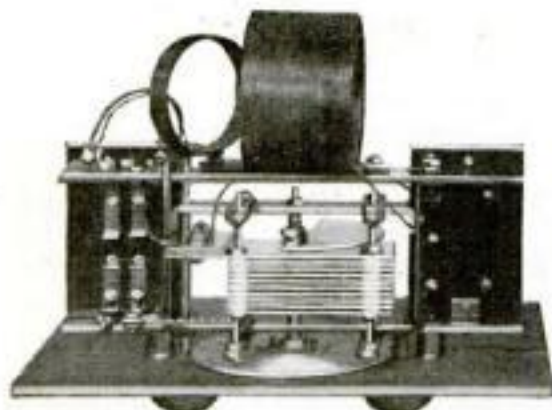
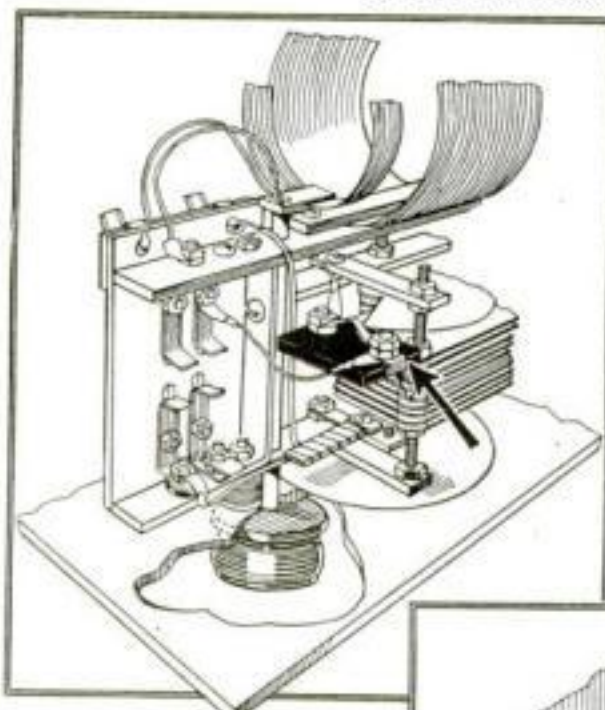

Fig. 1. Bottom view of Mr. Nebeker's prize-winning set, showing frame details, friction dial drive, and grid condenser.
Fig. 4. Arrow at right indicates simple friction drive that operates dial of tuning condenser. A spring maintains the friction.
The winning set was submitted by Lyman M. Nebeker, of Washington, D. C. It is shown in Figs. 1, 2, and 3. The circuit used is conventional in every respect. It
The dial is operated by a friction vernier arrangement constructed with a spring which grips the edge of the aluminum disk between two small brass disks, one of which is rigidly attached to the vernier knob shaft and the other slides on it. This method of driving the dial is shown in the photographic illustration of Fig. 1 and also in the drawing of Fig. 4. The motion is as smooth and velvety as anyone could desire.
**A** UNIQUE feature of the set, and one the writer does not recall having seen on any commercial set, is the grid condenser. If you examine any conventional radio diagram, you will note that one terminal of the grid condenser always is connected directly to the stationary plates of the tuning condenser. Mr. Nebeker has completely eliminated this connection by making one of the stationary plates of the tuning condenser extend considerably beyond the others and then he uses this extended portion as one plate of his homemade grid condenser. This is a neat, simple, and highly efficient arrangement. It is shown clearly in the illustration of Fig. 1 and the drawing of Fig. 3.